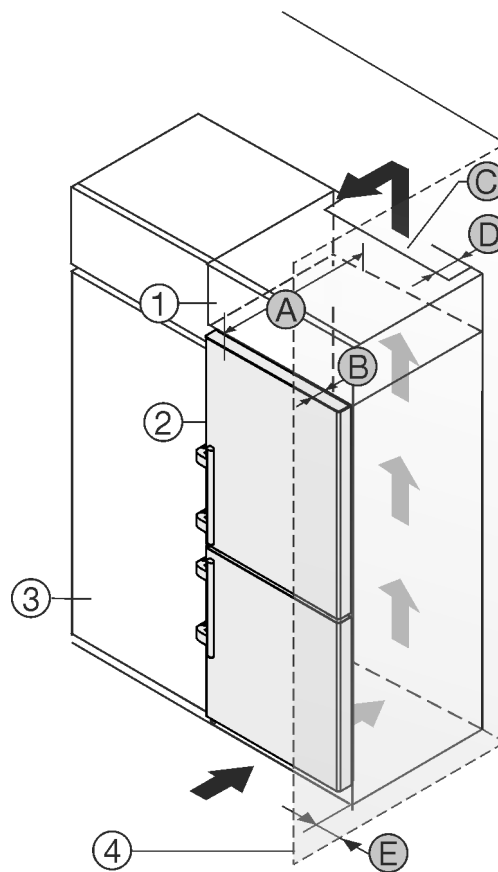

Fig. 2
- (1) Top cabinet\*
- (2) Appliance\*
- (3) Kitchen cabinet\*
- (4) Wall\*
- (A) Appliance depth\*
- (B) Door depth\*
- (C) Ventilation cross-section\*
- (D) Distance to the rear of the appliance\*
- (E) Distance to the side of the appliance\*
Set up the appliance directly next to the kitchen cabinet Fig. 2 (3).\*
There must be a ventilation shaft at the depth Fig. 2 (D) of the back of the top cupboard over the entire width of the top cupboard.\*
The cross section of the ventilation gap Fig. 2 (C) must be maintained below the ceiling.\*
If the appliance is installed with the hinges next to a wall *Fig. 2 (4)*, the distance between the appliance and the wall must be at least 57 mm (2.24 in). This is how far the handle protrudes when the door is open.\*
In order to be able to fully open the door, the appliance must protrude by the depth *Fig. 2 (B)* of the door from the front of the kitchen cabinet. Regardless of the depth of the kitchen cabinets *Fig. 2 (3)* and use of wall spaces, the appliance can protrude further.\*